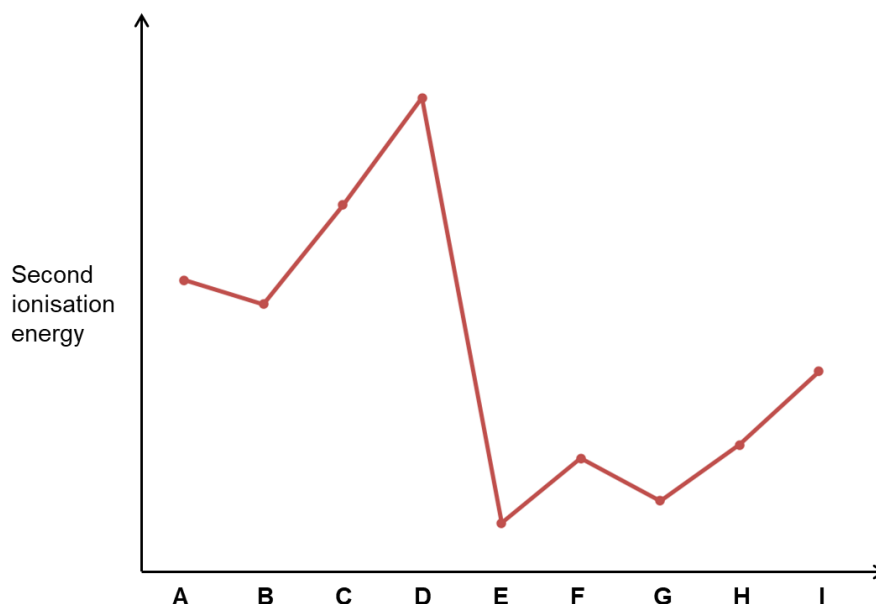

Fig. 3.1
- (b) Figure 3.1 shows the second ionisation energies of nine consecutive elements **A** to **I** with atomic numbers below 20 in the Periodic Table. Labels **A** to **I** are not the atomic symbols of the elements.